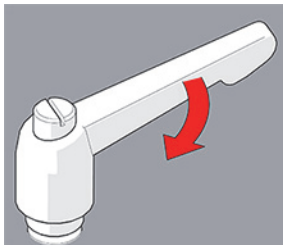

Figure 3-47 Tighten handle
3. Release the lever and use the new tightening position (see Figure 3-47 on page 66).